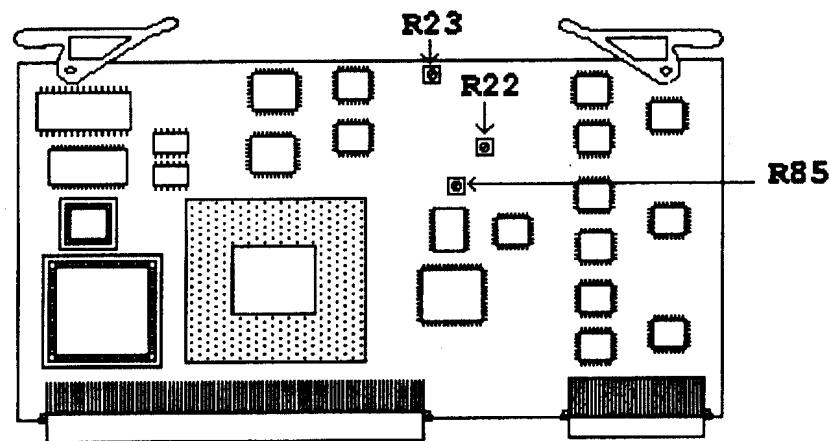

Figure 2. Function generator assembly A24.
(4) Connect multimeter **INPUT HI** and **LO** to **TI AUDIO OUT**. Set multimeter to measure volts dc.
(5) Press **FIELD SELECT ↓** key to select **LEVEL** and press **DATA ENTRY ENTER** key. Press **DATA ENTRY 3 . 1** and **ENTER** keys.
(6) Press **FIELD SELECT ↑** key to select **GEN 1** and press **DATA ENTRY ENTER** key to set **GEN 1 On**.
(7) If multimeter does not indicate $0.000 \pm .01$ V dc adjust A24R23 (fig. 2) as close as possible.
- (8) Press **DATA ENTRY ENTER** key to set **GEN 1 Off**. Press **FIELD SELECT ↓** key to select **GEN 2** and press **DATA ENTRY ENTER** key to set **GEN 2 On**.
- (9) If multimeter does not indicate $0.000 \pm .01$ V dc adjust A24R22 (fig. 2) as close as possible.
- (10) Press **DATA ENTRY ENTER** key to set **GEN 2 Off**. Press **FIELD SELECT ↑** key to select **GEN 1** and press **DATA ENTRY ENTER** key to set **GEN 1 On**.
- (11) Press **FIELD SELECT ↓** key to select **GEN 1 WAVE**, adjust **DATA SCROLL** knob to select **Sine**, and press **DATA ENTRY ENTER** key. Set multimeter to measure volts ac and record multimeter indication (approximately 3.1 V rms).
- (12) Press **FIELD SELECT ↑** key to select **GEN 1** and press **DATA ENTRY ENTER** key to set **GEN 1 Off**.
- (13) Press **FIELD SELECT ↓** key to select **GEN 2 WAVE**, adjust **DATA SCROLL** knob to select **Sine**, and press **DATA ENTRY ENTER** key. Press **FIELD SELECT ↑** key to select **GEN 2** and press **DATA ENTRY ENTER** key to set **GEN 2 On**.
- (14) Adjust A24R85 (fig. 2) for a multimeter indication recorded in (11) above ± 5 mV (R).
- (15) Disconnect multimeter and reconnect to TI and resistance standard set to 150Ω .
- (16) Press **MODE MTRS** key, **AUX (F6)** key, **DATA ENTRY** key 1 (Calibrations), and press **FIELD SELECT ↓** key to select **15. Func Gen Level**. Press **DATA ENTRY** and **DATA ENTRY 1** keys (199.9 mV calibration).
- (17) Use **DATA SCROLL** controls to adjust multimeter indication for 199.0 ± 1 mV ac and press **DATA ENTRY ENTER**.
- (18) Press **DATA ENTRY 2** key (2.5 V calibration), use **DATA SCROLL** controls to adjust multimeter indication for $2.500 \pm .010$ V ac then press **DATA ENTRY ENTER** key.
- (19) Press **ESC (F6)** key, press **FIELD SELECT ↑** or **↓** key to highlight **8. VRMS Meter**, and press **DATA ENTRY ENTER** key.
(20) Press **DATA ENTRY ENTER** and use **DATA ENTRY** keys to enter multimeter indication to two decimal places, then press **DATA ENTRY ENTER** and **Ret (F5)** keys.
(21) Press **MODE AF GEN** (AF GEN Display) key; when prompted for backup data, press **SHIFT** and **Y** keys (Backup Cal Data ? y/n).
(22) Disconnect test equipment, press **TI POWER** key off, remove frequency generator assembly and extender card, and reinstall frequency generator assembly in proper slot. Press **TI POWER** key **ON**.